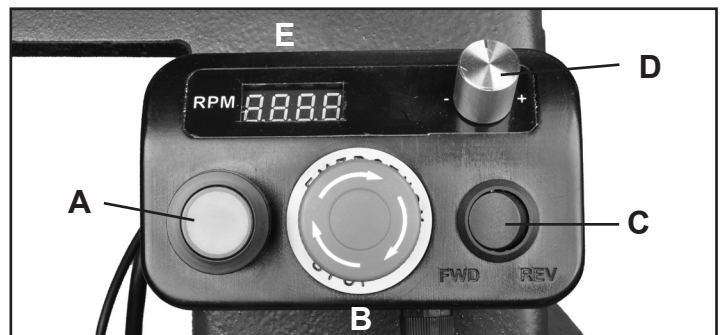

FIG. 6
The lathe features a corded Control Box, FIG. 6 (#1E), with magnets on its back that allow it to be positioned on the face of the headstock or anywhere along the lathe's bed! Wherever it is most comfortable for the turner to quickly access the controls to regulate turning speeds, direction of spindle rotation or to stop the lathe.
1. **'ON' BUTTON:** (FIG. 6, A) Push the green Button so that it turns the lathe ON. Push the red 'mushroom' Stop Button (B) to turn the lathe OFF.
2. **'STOP' BUTTON:** (B) Push in the extended red Button to stop the lathe. To restart the lathe, rotate the OFF button clockwise and it will pop out to reset itself. Then press the 'ON' button to restart the lathe.
3. **FORWARD / REVERSE SWITCH:** (FIG. 6, C) This selector switch will change the direction that the spindle turns - clockwise (forward) or counter-clockwise (reverse).
4. **SPEED RPM KNOB:** (FIG. 6, D) This knob controls the desired spindle revolutions per minute (RPM). The lathe has three speed ranges; 150-650, 400-1550, 850-3850 RPM. Spindle speeds are shown on the LCD Display (E).
5. **SPEED RPM DIGITAL READOUT:** (E) Displays the spindle's RPM as set by the RPM Knob (D). **NOTE:** Speeds displayed may vary + - 5% due to difference in input voltage.